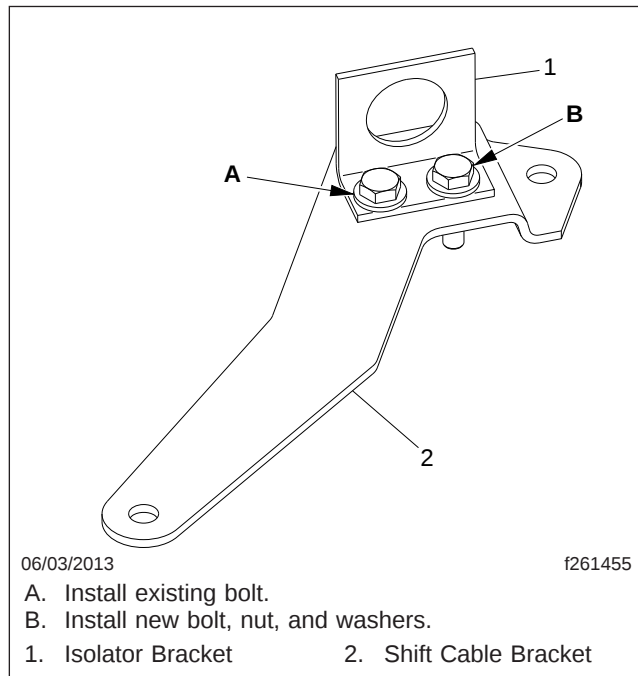

Fig. 10, Isolator Bracket Installation, Kit KPP 294201
9. Install the new bracket on the shift cable bracket, using the existing capscrew and the new bolt, nut, and washers. See **Fig. 10**. Tighten the existing capscrew 35 lbf-in (395 N·cm), and the new bolt 60 to 84 lbf-in (680 to 950 N·cm).